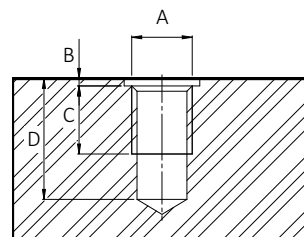

Figure 61: Mounting threads for Industrial Design models
1. Mount the camera to the base using suitable M4 screws at 2.7 Nm maximum torque for a thread engagement (C) of 6 mm between screws and mounting threads, see Figure 61. For details, see your model's technical drawings.